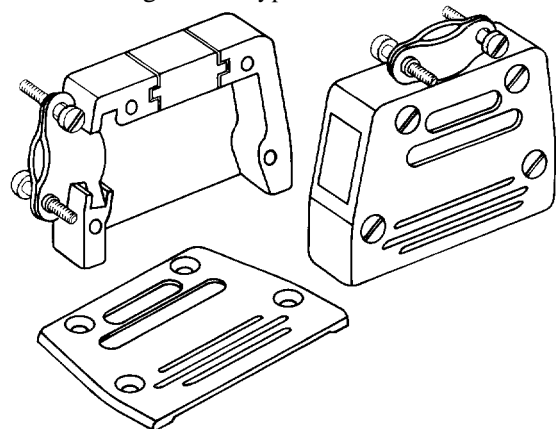

Figure 16. Typical Shield Cover with Clamp
37. **Shield Cover with Clamps.** This accessory is a shield cover with an integral clamp (Figure 16).